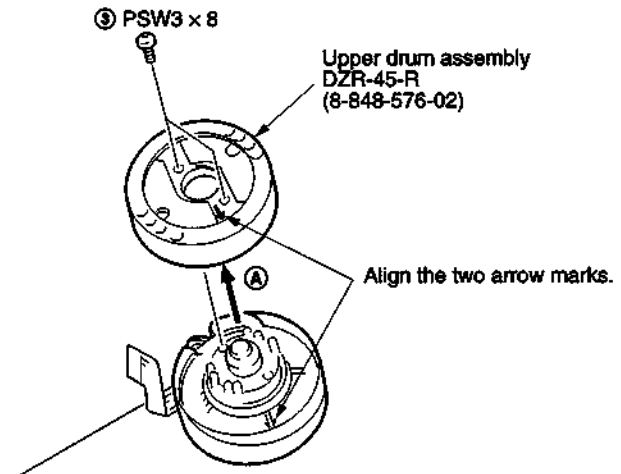

Fig. 5
- 3) Remove two screws ③ (PSW3×8) and remove the rotary upper drum in the direction of ④. (Refer to Fig. 5.)
- 2) Align ⇒ mark of the rotary upper drum board with the ⇒ mark of the rotary transformer board so that the screw hole on the upper drum and that on the lower drum are aligned. (Refer to Fig. 5.)
- 4) Tighten the two screws ③ (PSW3×8). (Refer to Fig. 5.)
- 5) Fix the earth shaft ② by tightening the screw ① (+P3×8) so that protrusion at the tip of the earth shaft contacts the center of the drum shaft.